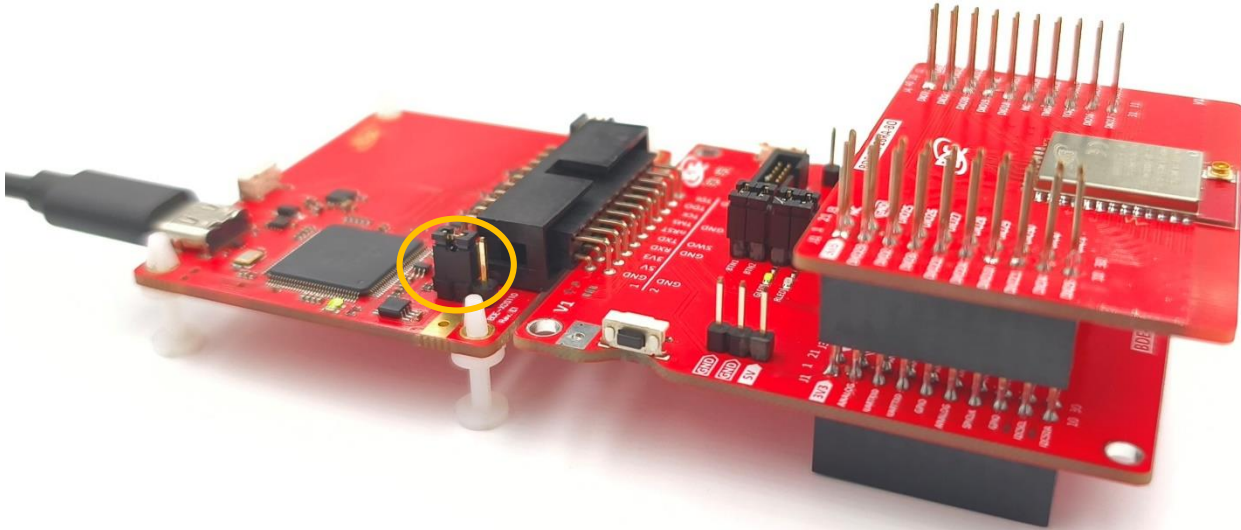

Figure 6. Hardware Setup
1. Plug BDE-MB13-BO into the BDE-LPEM evaluation module and connect BDE-LPEM to BDE-XDS110, as shown in Figure 6;
2. Connect the jumpers as shown in Figure 6;